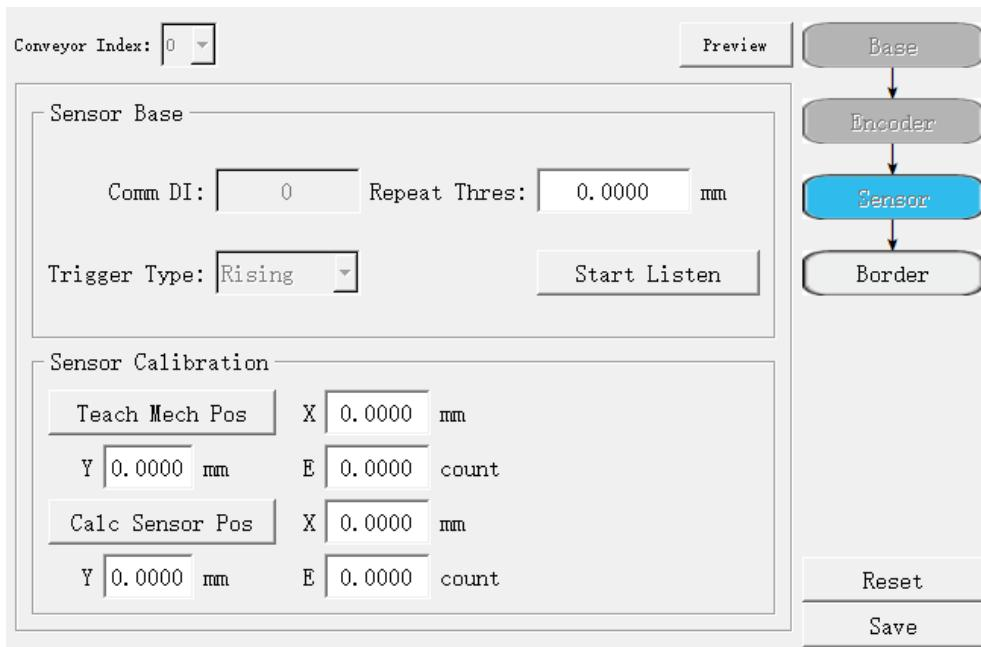

Figure 5.14 Sensor calibration page
**Step 4** (Optional) Click **Sensor** to calibrate the sensor, as shown in Figure 5.14.